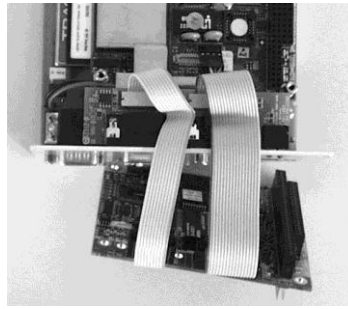

Fig. 2.5.5
- Please, put the Profibus card in front of the front panel (Fig. 2.5.5).